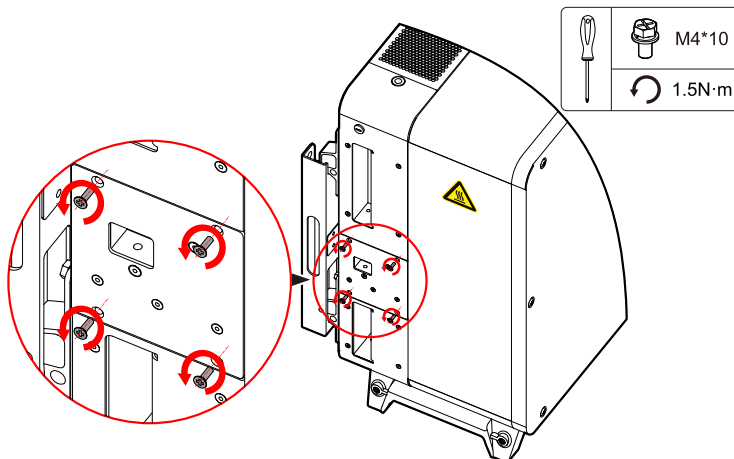

Figure5-1 Loosen the screws of fan cover
- Step 2 Loosen the screws of fan cover, as shown in Figure5-1.